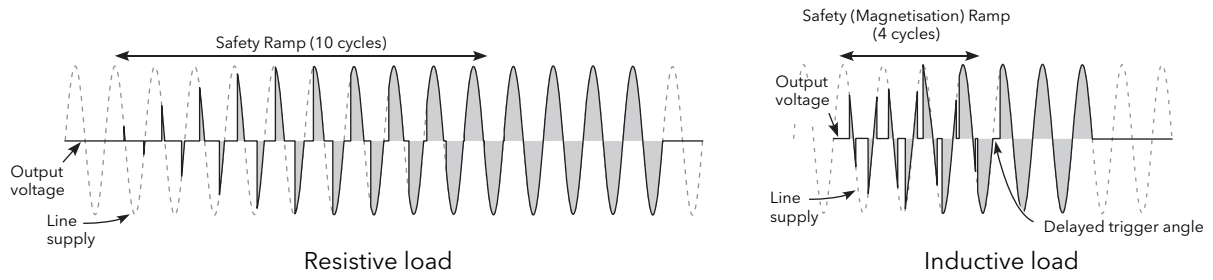

Figure 89 Safety ramp (burst firing) examples
- Safety Ramp** Displays the safety ramp duration, in supply voltage cycles (0 to 255), to be applied at startup. The ramp is either a phase angle ramp from zero to the requested target phase angle or, for Burst Firing, from 0 to 100%. See Figures 89. Safety Ramp is not applicable to Half cycle Mode.